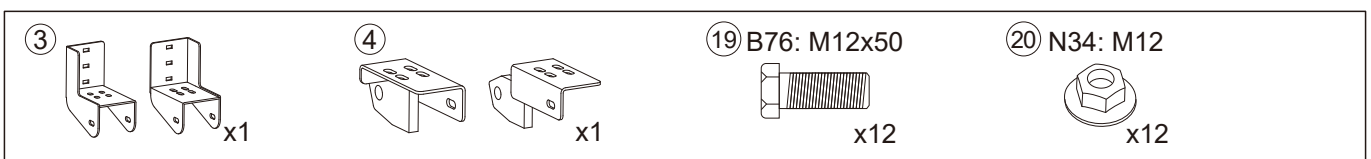

Figure 31
**Step 29:** Installation of the Brackets and Trailer Hitch. (Figure 31~33)